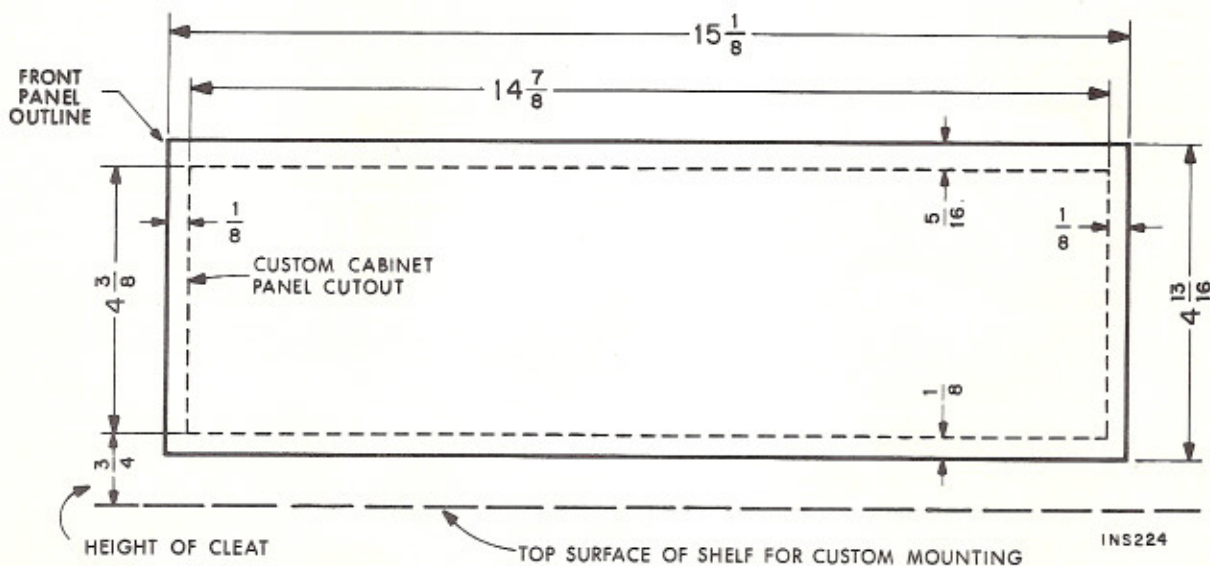

Figure 5. Panel cutout for custom mounting
- (3) Saw a cutout through the front panel of your cabinet to the dimensions shown in Figure 5. The distance between the top surface of the mounting board and the bottom of the cutout must be the same as the height of the cleats.
- (4) Insert the TX-300 chassis through the front of the panel cutout. Slide the chassis into the cabinet until the back of the control panel is tight against the panel of the cabinet.
- (5) Insert the four $1\frac{1}{2}$ -inch screws supplied in the accessories bag through the holes in the bottom of the mounting board and fasten the chassis into place.
- (1) Determine the position in which you wish to mount the amplifier. After checking beneath the top panel of the cabinet for any obstruction, make a cutout in the top panel of the cabinet, as shown in Figure 5.
(7) Mount cleats 3 and 4 on the inside of the cabinet as shown in Figures 5 and 7. Drill $\frac{1}{8}$ -inch pilot holes for each screw, about $\frac{1}{4}$ inch deep.